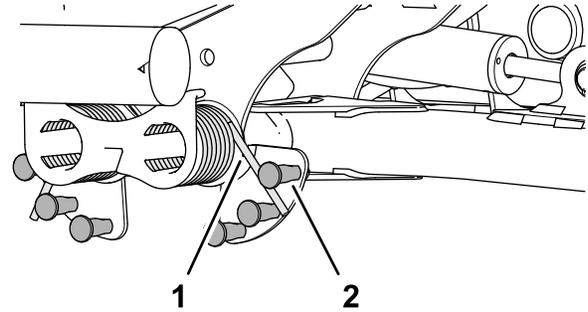

Figure 50
2. Insert the long end of the counterbalance spring into a tube or similar object, and pivot the spring around the shouldered stud to the desired position (Figure 50).